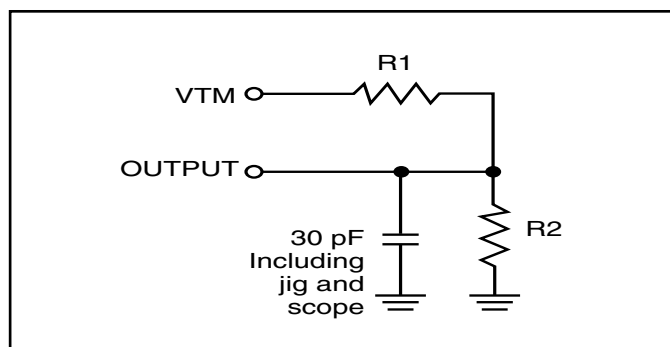

Figure 1.
- Test conditions assume signal transition times of 5 ns or less, timing reference levels of 0.9V/1.5V, input pulse levels of 0.4 to  $V_{DD}-0.2V/V_{DD}-0.3V$  and output loading specified in Figure 1.